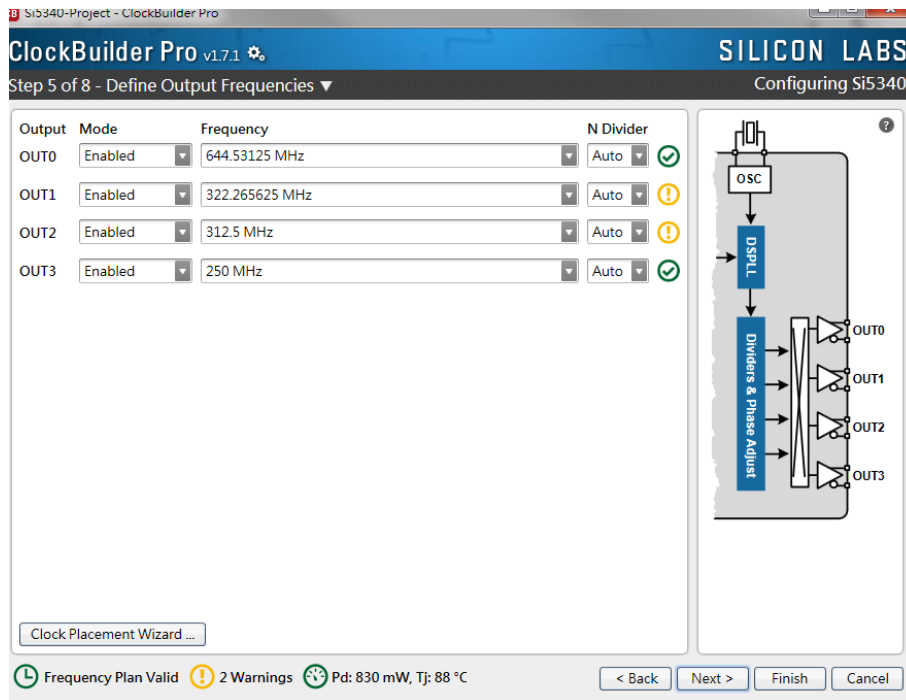

Figure 5-6 Define Output Clock Frequencies on ClockBuilder Pro Wizard
2. After the installation, select Si5340, and configure the input frequency and output frequency as shown in Figure 5-6.